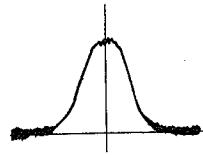

Fig. 7
1. Adjust the core of T101 so that the gain will be max. In this case, reduce the level of the input signal of signal generator so that the waveform will be done shown in Fig. 7.